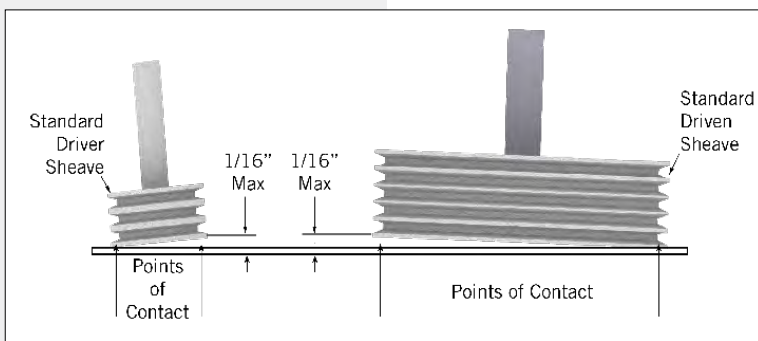

Figure 4. Standard Drive Alignment
- Place a straight edge across the driver and the driven sheaves as shown in **Figure 4** for standard drives.
- The straight edge should contact all four points as shown in **Figure 4** indicating that the drives are properly aligned.